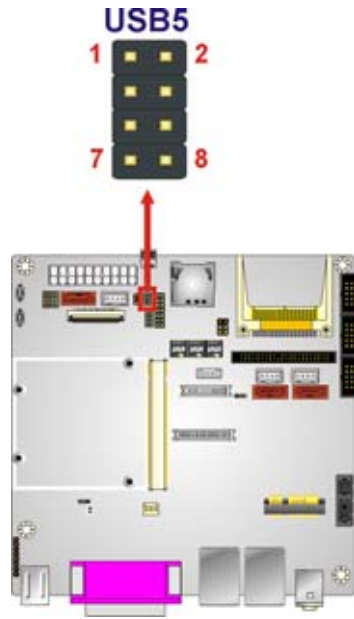

Figure 4-21: USB Connector Locations
- CN Location:** See Figure 4-21